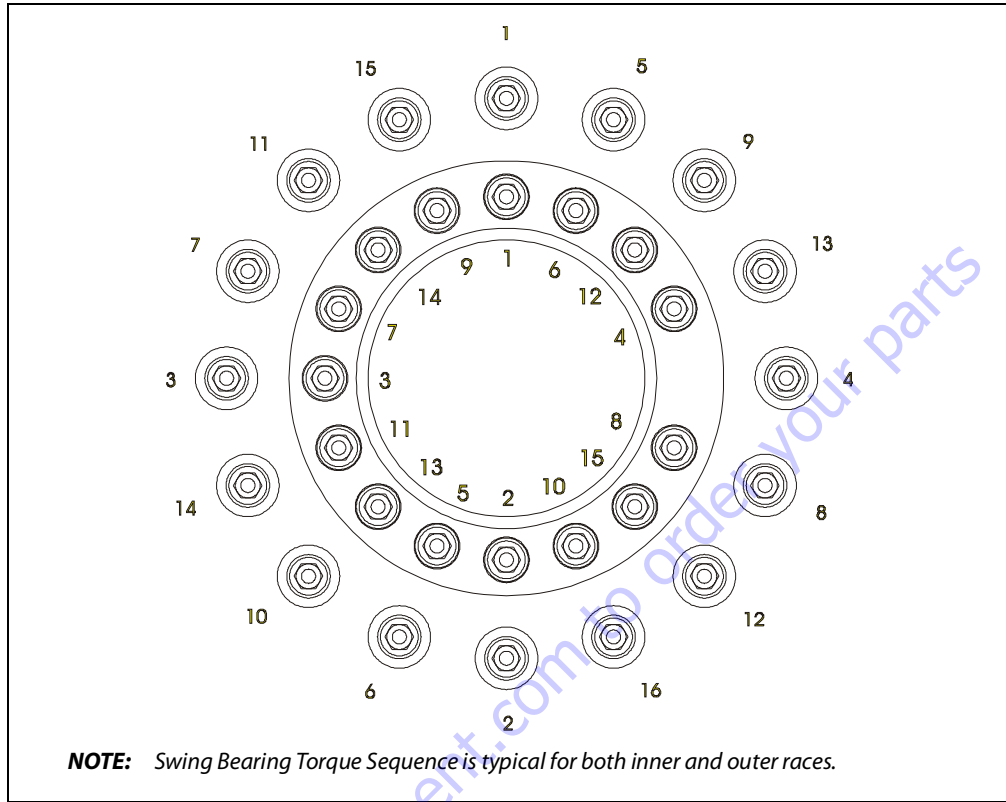

Figure 3-22. Swing Bearing Torque Sequence
- Refer to the Torque Sequence diagram as shown in Figure 3-22., Swing Bearing Torque Sequence. Spray a light coat of Safety Solvent 13 on the new bearing bolts. Then apply a light coating of High Strength Threadlocking Compound to the new bearing bolts, and install the bolts and washers through the frame and outer race of the bearing. Note the position of the two shorter bolts as shown below. Tighten all bolts to an initial torque of 115 ft.lbs. (155 Nm) w/Threadlocking Compound.
- Following the Torque Sequence diagram shown in Figure 3-22., Swing Bearing Torque Sequence, tighten the bolts to a torque of 118 ft.lbs. (160 Nm) w/Threadlocking Compound.